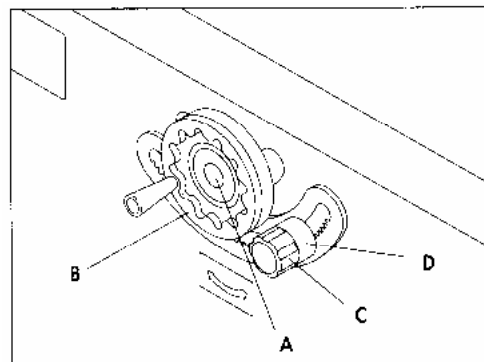

Fig. 3.20
1. Loosen handwheel lock (a) Fig. 3.20, before making adjustment of spindle height.
2. To raise the spindle, turn handwheel (B) clockwise and lower the spindle, turn handwheel (B) counterclockwise.
3. Tighten handwheel lock (A) when desired spindle height is obtained.
2. Loose the knob (C) Fig. 3.20.
3. Turn the knob (D) to the required tilting degree and position.
4. Tighten the knob (C).